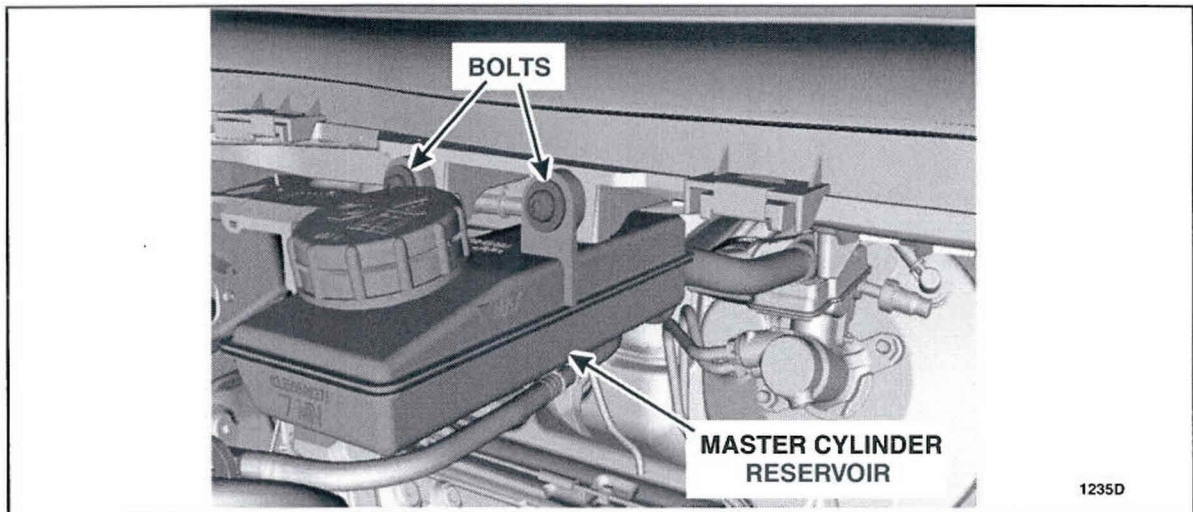

FIGURE 7
7. Remove the two bolts and position the master cylinder reservoir aside. See Figure 7.